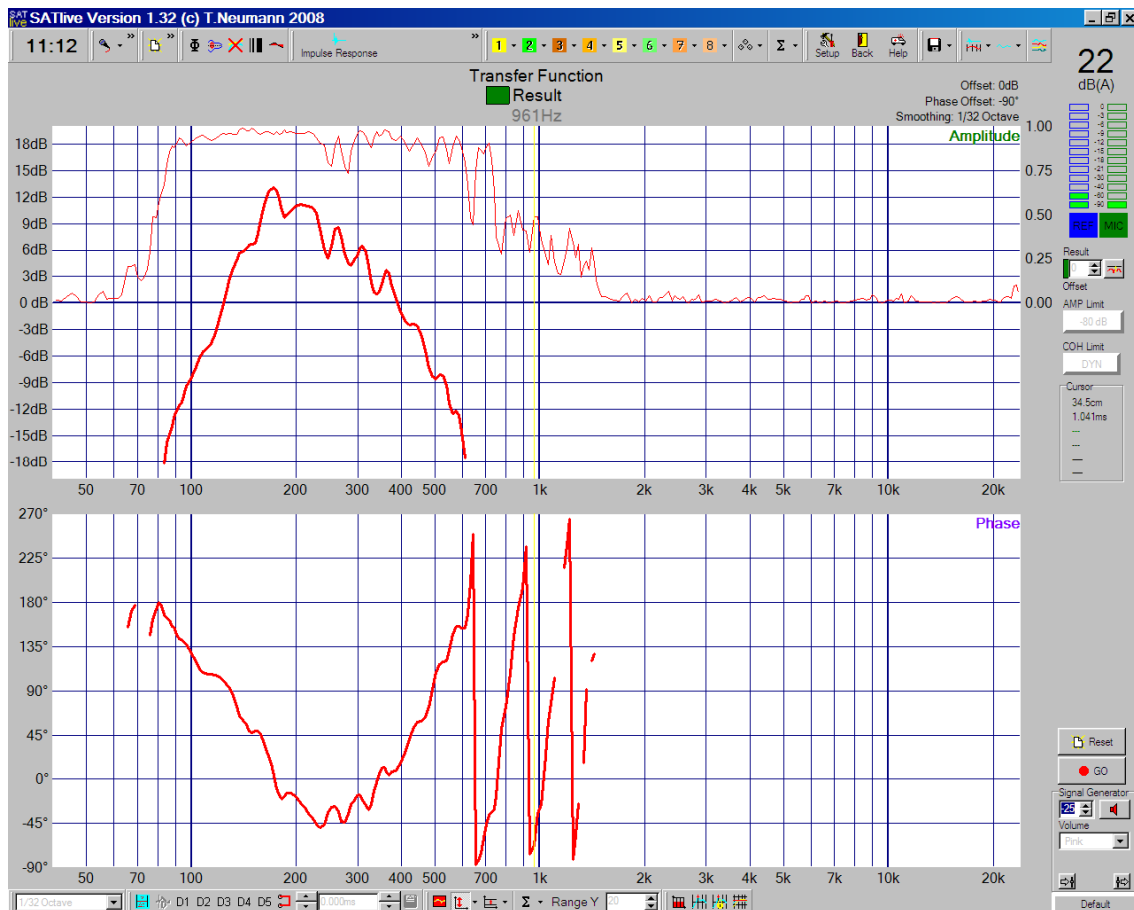

Fig. 15. Magnitude and phase curves for the subwoofers facing forward at the position where the cancellation is required.
3) Measure the magnitude frequency response for the enclosures facing forward before doing phase adjustments. This way we'll be able to compare the initial situation with the cardioid configuration. The measurement can be seen in Figure 15. The subwoofers' phase trace will always be shaped like an upper case U letter, or a smile.